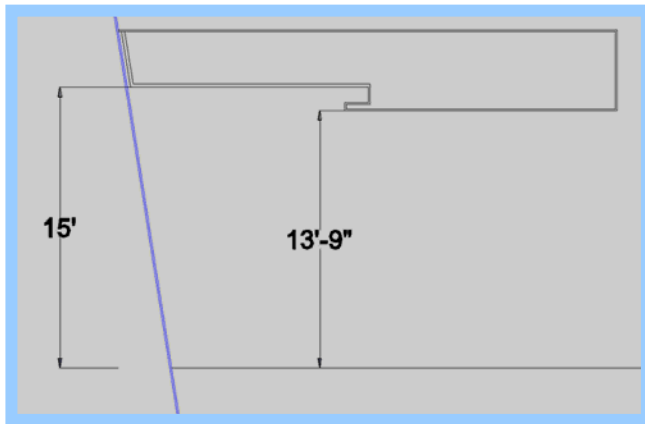

Figure 2
*Existing Conditions:* The area of the concourse to be changed from radius metal panels to acoustic ceiling panels is highlighted in the floor plan of the concourse (Figure 1). A picture of the existing metal panels and the acoustic ceiling panels to be used is depicted in Figure 2. The aluminum metal paneling is highly reflective, which could create unwanted glare issues. In order to keep the integrity of the circular design, the new lighting plan places the fixtures on the same 40ft radius circle to highlight the uniqueness of the rotunda. The space is generally all white with a few accent colors, so the acoustic ceiling panels will fit in well and won't be an eyesore, while keeping the same aesthetics. The total square footage being altered is 4,750. The current metal panel ceiling is 1'-3" below the surrounding drywall ceiling. Figure 3 depicts these existing conditions in a wall section.